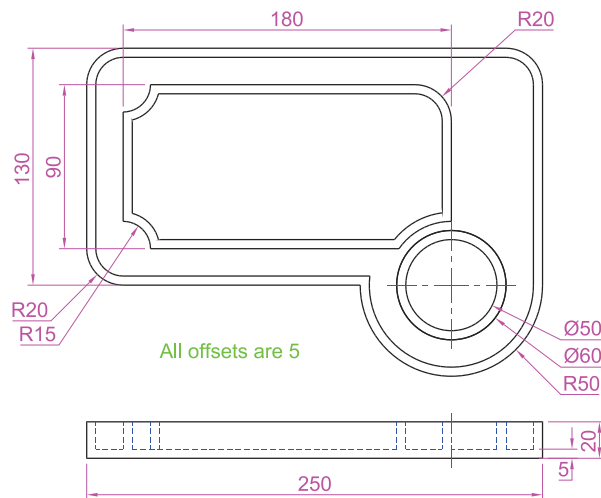

Fig. 18.11 Sixth example – **Copy faces** tool – details of the 3D solid model
1. Construct a 3D model to the sizes as given in Fig. 18.11.